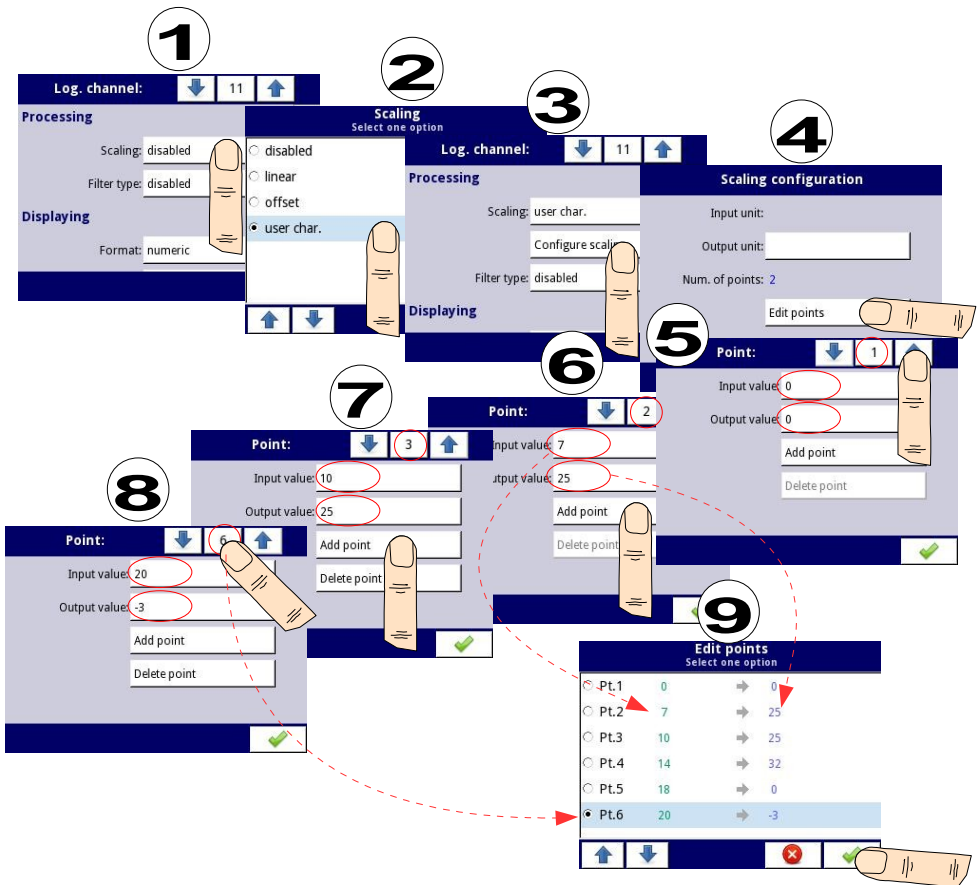

Fig. 7.41. Configuring the user characteristic
1. Press the button next to the **Scaling** label and select the **user characteristic** option (point (1) and (2) in Fig. 7.41).
2. Press the **Configure scaling** button and enter the **Scaling configuration** menu (point (3) in Fig. 7.41).
4. Press the **Edit points** button (point (4) in Fig. 7.41) and go to the **Edit points** menu.
For **Point 1** set input and output value (point (5) in Fig. 7.41).
5. Switch to **Point 2** by using the arrow keys and also set the value of input and output there (point (6) in Fig. 7.41).
8. At the end we check all the points defined by clicking the middle button between the arrows in the upper right corner of the screen (point (8) and (9) in Fig. 7.41).